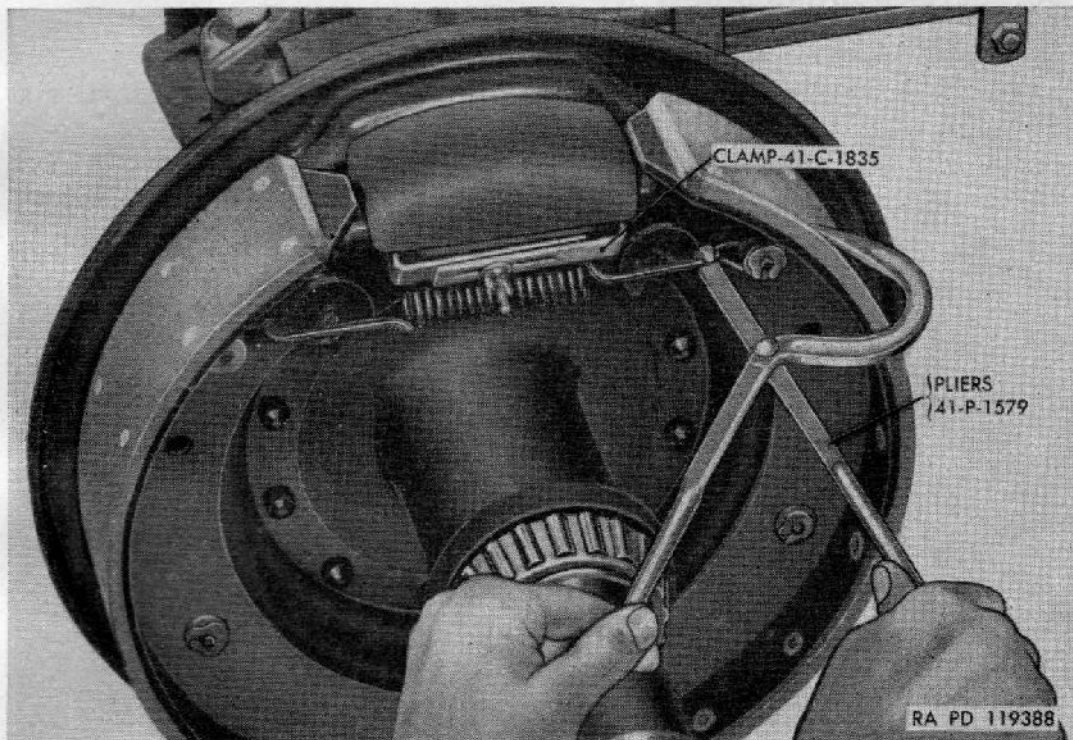

Figure 105. Return spring—removal or installation.
(fig. 105)
- (1) *Remove hub and drum assembly.* Refer to paragraph 185.
- (2) *Disconnect hydraulic line.* Disconnect hydraulic brake line from wheel cylinder at rear of brake flange plate.
- (3) *Remove wheel cylinder.* Install clamp 41-C-1835 over ends of wheel cylinder (fig. 105). Remove return spring with pliers 41-P-1579 (fig. 105). Remove two cap screws and lock washers holding wheel cylinder to flange plate and remove cover and wheel cylinder.
- (1) *Install wheel cylinder.* Place clamp 41-C-1835 over ends of wheel cylinder (fig. 105). Position cover and wheel cylinder on flange plate and install two lock washers and cap screws. Tighten cap screws securely. Position brake shoes at wheel cylinder. Install return spring with pliers 41-P-1579 (fig. 105). Remove clamp.
- (2) *Connect hydraulic line.* Connect hydraulic brake line to wheel cylinder at rear of brake flange plate.
- (3) *Install hub and drum assembly.* Install hub and drum assembly and adjust wheel bearings (par. 185).
- (4) *Bleed brakes.* Bleed brake system (par. 150).
- (5) *Adjust brakes.* Perform minor brake adjustment (par. 149).
- (2) *Remove drive flange.* Remove eight cap screws holding drive flange to hub and remove drive flange. Discard gasket.
- (3) *Remove hub and drum assembly.* Remove hub and drum assembly (par. 185).
- (4) *Disconnect shoes (fig. 107).* Install clamp 41-C-1835 over ends of wheel cylinder (fig. 105). Remove "C" washers from guide pins with pliers (fig. 108). Remove washer from guide pin. Some brake installations have a form of cotter pin and others have "C" washers. Remove "C" washers from anchor pins, using a $\frac{3}{4}$ -inch open-end wrench and hammer (fig. 109). Remove washer from anchor pin. It is not necessary to remove the anchor pins.
- (5) *Remove shoes.* Remove return spring with pliers 41-P-1579 (fig. 105). Pull each shoe away from wheel cylinder and pull shoes straight out.
- (1) *Install shoes.* Install a flat washer over each guide pin and position brake shoes over anchor pins and guide pins. Make certain upper ends of brake shoes engage wheel cylinder properly. Install return spring with pliers 41-P-1579 (fig. 105). Remove clamp 41-C-1835 from wheel cylinders.